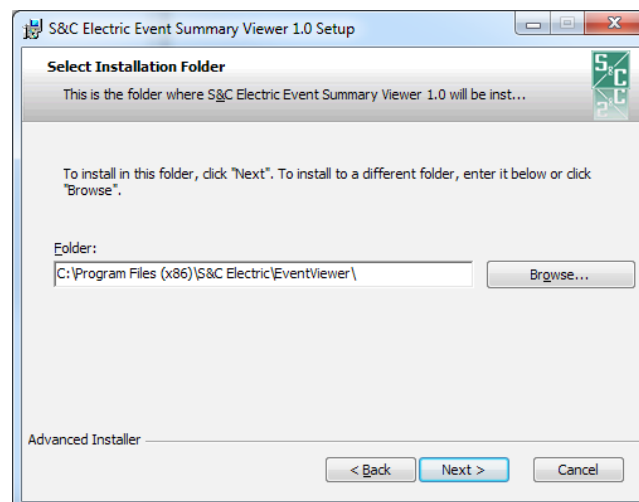

Figure 2. The Select Installation Folder dialog box.
STEP 3. On the next screen, select a destination folder, and then click on the **Next** button. The user must have read and write privileges to use the selected folder. See Figure 2.